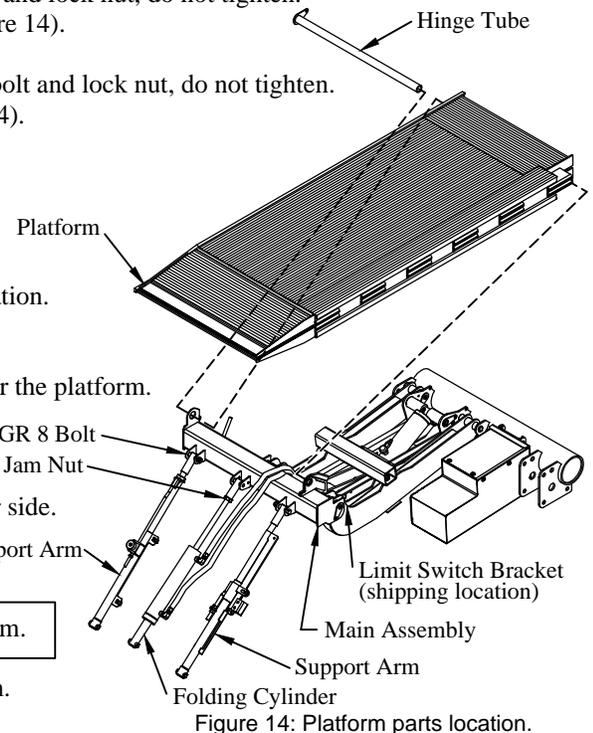

Figure 14: Platform parts location.
The threaded end of the support arm goes toward the main assembly (Figure 14).
The threaded end of the cylinder goes toward the main assembly (Figure 14).
4. **Install** the limit switch bracket on the passenger side support arm with two (2) #12 self-threading screws. See Figure 14 for bracket shipping location.